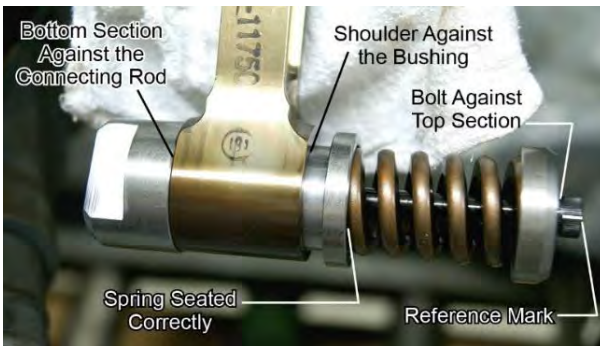
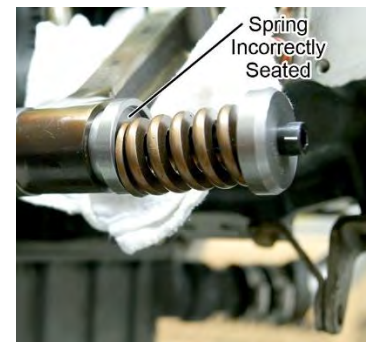

Figure 16
Figure 17
- The spring is seated correctly in the tool as shown in Figure 16. Figure 17 shows **incorrect** seating of the spring.
6. Use a marker to make a reference mark on the bolt head (Figure 16) to ensure an accurate count of the required number of turns during the procedure.